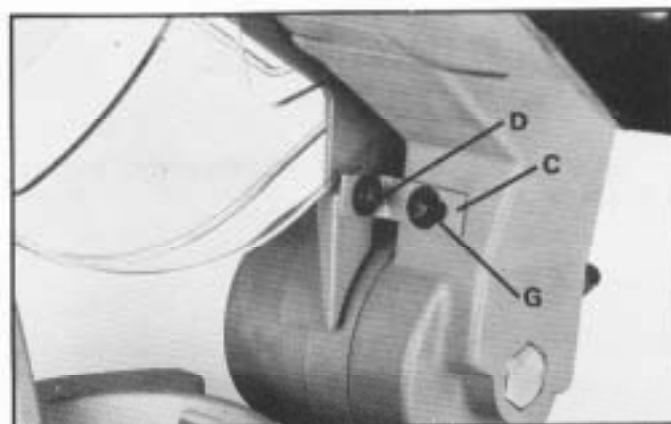

Fig. 8
4. Fasten other end of "L" bracket (C) Fig. 8, to saw arm using the 5/8" long screw (G), flat washer and lockwasher. Do not completely tighten screw (G) at this time.
8. When you are certain the blade guard is adjusted as stated in STEP 7, tighten screw (F) Fig. 7, first. Then tighten screw (D) Fig. 8, and screw (G) Fig. 8, in that order moving the "L" shaped bracket if necessary.